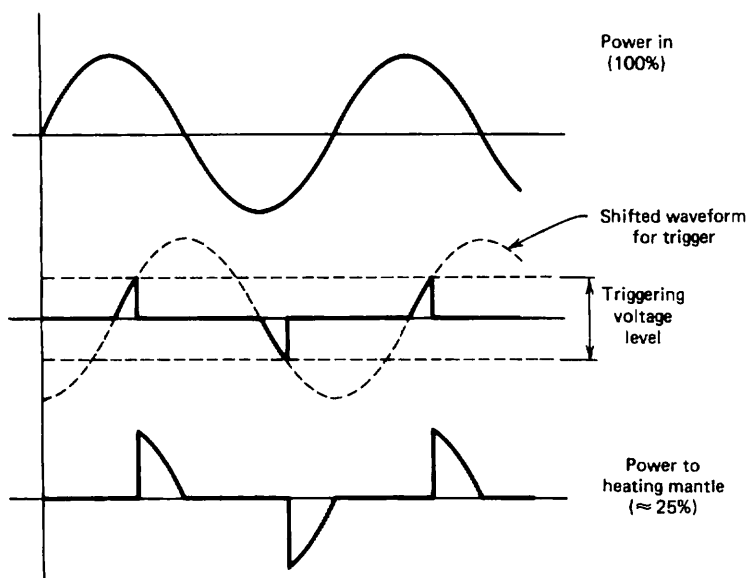

Fig. 86 Light dimmer and heating mantle triac power control.
3. **The electronic stepless controller.** Would you believe a *light dimmer*? The electronic controller has a *triac*, a semiconductor device, that lets fractions of the AC power cycle through to the heating mantle. The AC power varies like a sine wave, from 0 to 120 V from one peak to the next. At a setting of 25%, the triac remains off during much of the AC cycle, finally turning on when the time is right (Fig. 86). Although the triac does turn “full-off and full-on,” it does so at times in so carefully controlled a way that the mantle never sees full line power (unless you deliberately set it there).